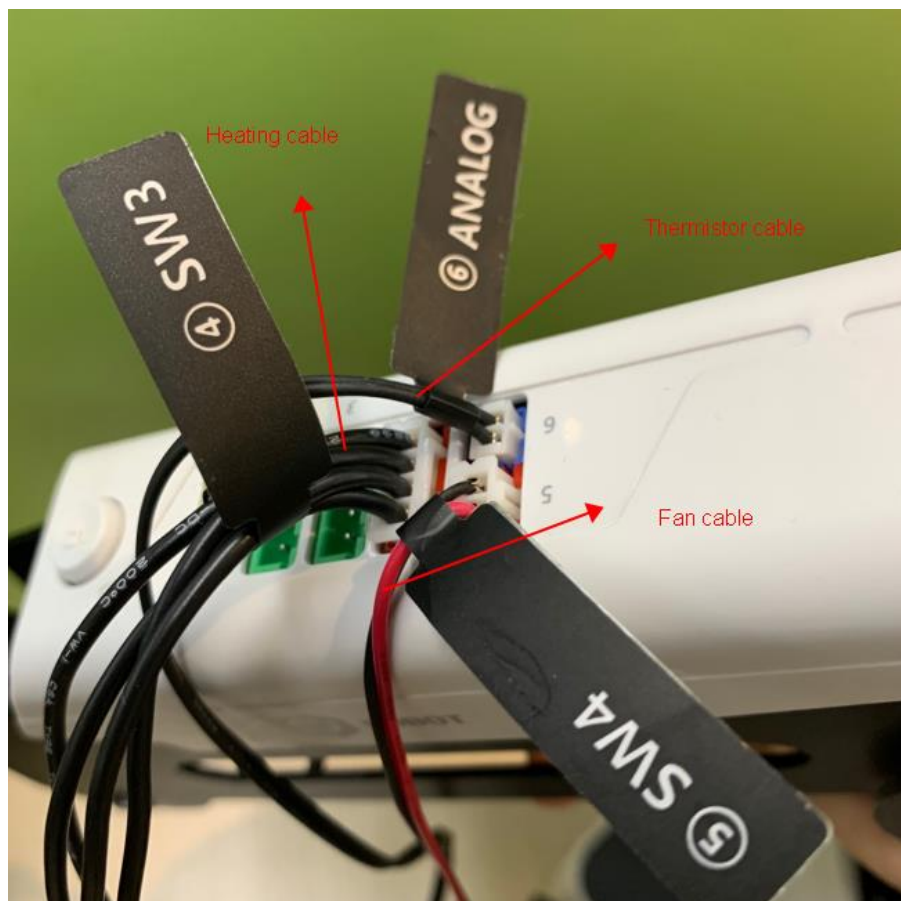

Figure 5.108 Connect hot end to the Forearm
- Step 5** Insert the heating cable to the interface **4** on the Forearm, the fan cable to the interface **5** and the thermistor cable to the interface **6**, as shown in Figure 5.108.